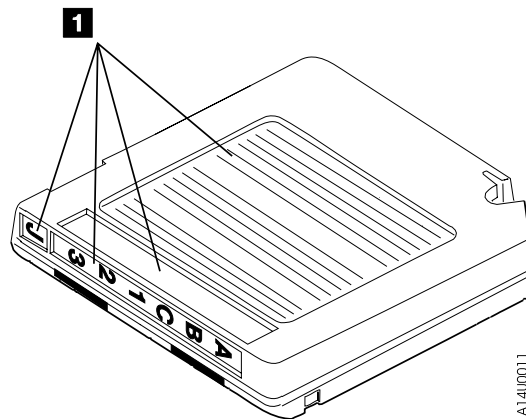

Figure 20. Cartridge Label Locations
Figure 20 shows all the label locations. The cartridge surface has recesses for label attachment (see item **1**).
There are two kinds of cartridge labels: A customer label and either a volume or a serial number label. Attach the customer label to the top surface of the cartridge. Then, attach the volume or serial number label to the side opposite the file-protect selector as shown in Figure 20. Place the labels in the recessed cartridge label areas only. Labels that extend outside of the recess areas can cause loading problems in the drive, particularly when using the automatic cartridge facility.
1. Figure 20 illustrates that the IBM 3590 High Performance Cartridge Tape must have a **J** label affixed in the seventh label position. The presence of this label distinguishes 3590 cartridges from other types that may be in a library inventory. Although similar in appearance to other tape cartridges, the IBM 3590 High Performance Cartridge Tapes are not interchangeable.